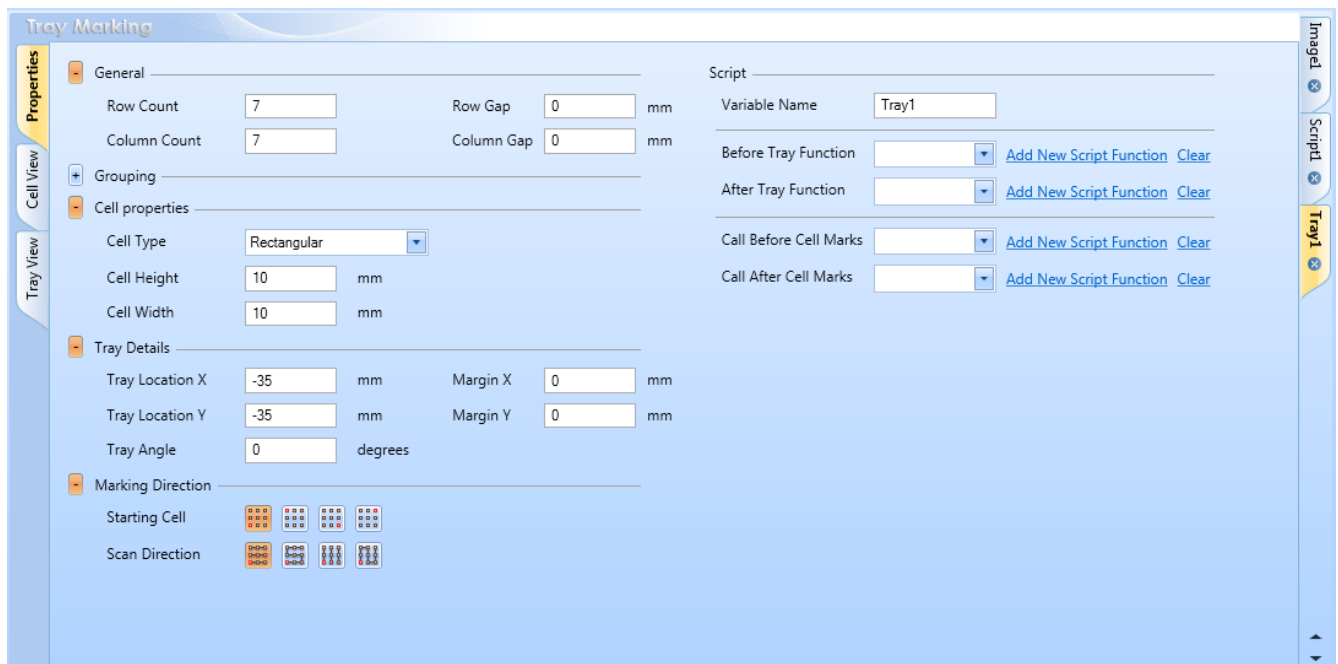

FIGURE 605: TRAY MARKING PROPERTIES
1. Left-click the **Tray** icon  located in the **Project | Automation** panel of the **Ribbon**. This creates a tray with default values of tray properties. The **Tray Marking Properties** window is displayed as shown in Figure 605 (below).